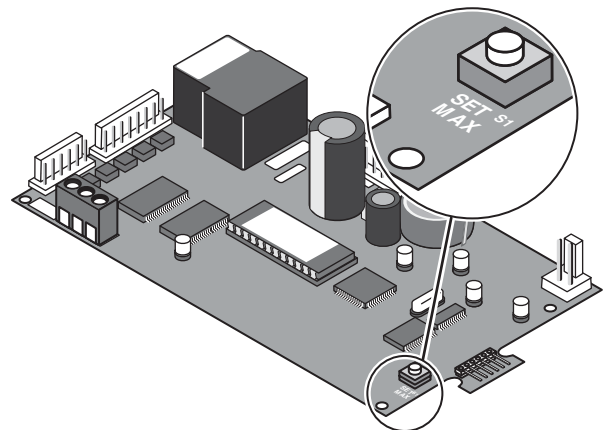

Figure 26.
3. Push the **Max. Temp. Set Point** button on the back of the control board (see Figure 26).